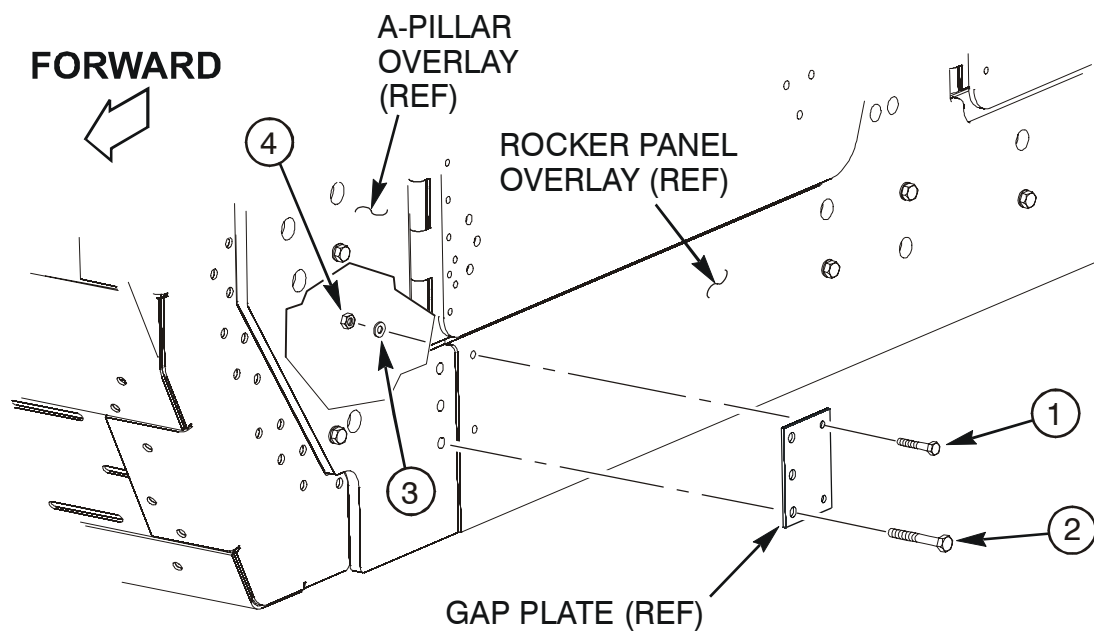

Figure 8.
11. Apply sealing compound to three 4397000-074 capscrews (2). See figure 8.
12. Re-install gap plate to A-pillar overlay and rocker panel overlay securing with three 4397000-074 capscrews (2), two 4397000-017 capscrews (1), two 4397005-010 flat washers (3) and two 4397064-001 locking nuts (4). See figure 8. Torque three capscrews (2) to 23 lb-ft. (31 N·m) and two capscrews (1) to 10 lb-ft. (14 N·m).